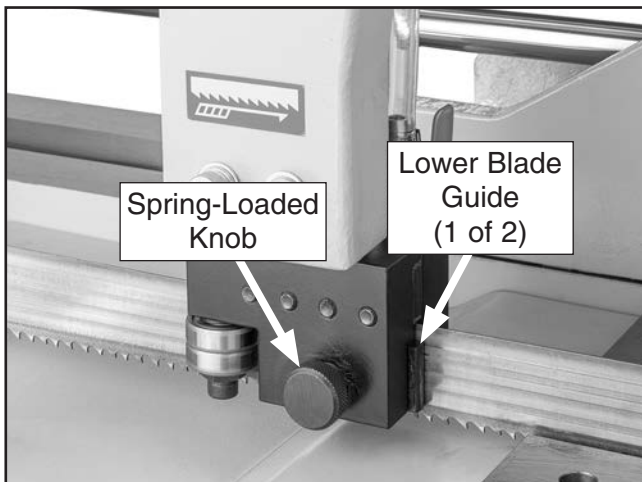

Figure 99. Lower carbide blade guide adjustment components.
8. On left blade guide, tighten spring-loaded knob until lower blade guides (see **Figure 99**) are snug against blade, then back off knob ½ turn. DO NOT over-tighten knobs.